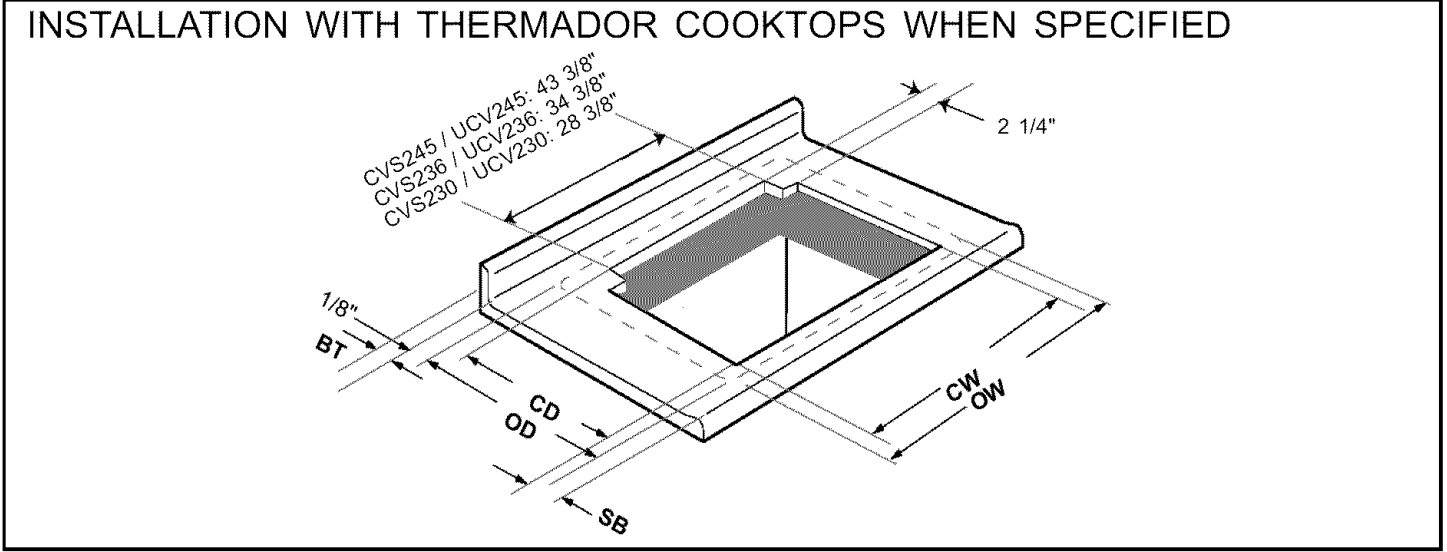

Figure 7
For installation with a Thermador cooktop, refer to Part A (at left) and Figure 7 (Page 7)). For installation with another brand of cooktop, refer to Part B (Page 8).
A. FOR INSTALLATION WITH A THERMADOR COOK TOP (FIGURE 7 AND TABLE 3)